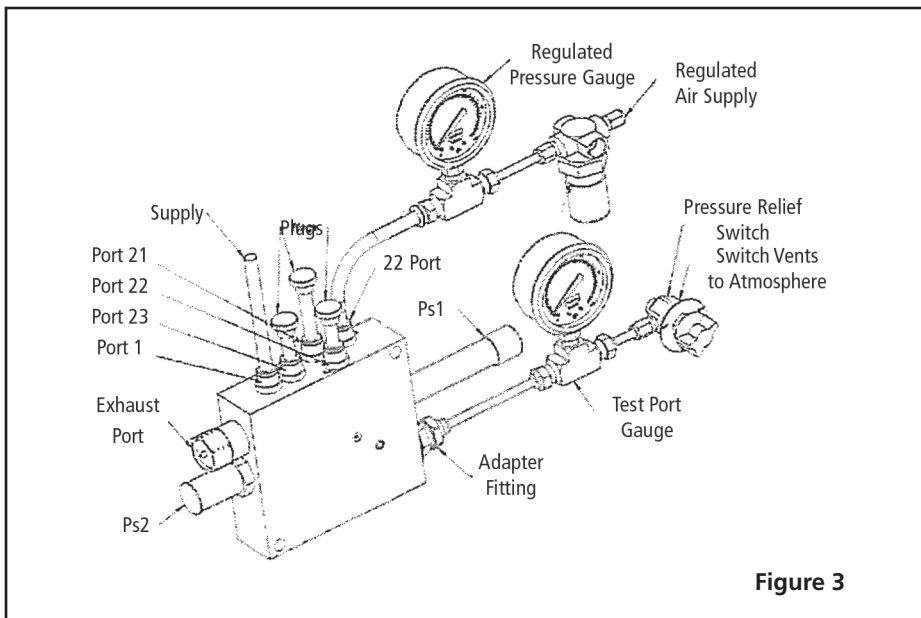

Figure 3
Refer to Figure 3 for proper setup of the test equipment. The line connected to Port 11 will require regulated air. Ports 21, 22 and 23 will need to be plugged and supply air will need to be connected to Port 1. For on the vehicle testing, leave all Ports connected except for Port 11, a regulated pressure line will be needed and the Height Control Valve (HCV) line will need to be pluggged.
1. Connect regulated air pressure line to Port 11. connect the air switch and gauge to the test port as shown in Figure 3. A test port adapter fitting may need to be installed into the test port to properly connect the gauge.
2. Connect a regulated air pressure line to Port 11. Connect the gauge and the air switch to the test port as shown in Figure 3.